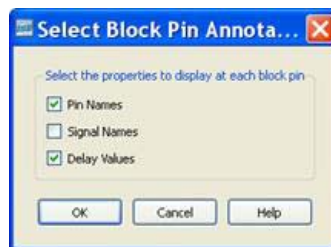

Figure 6-9: Select Block Pin Annotation
3. In the following dialog box, check the **Delay Values** option. Check the **Pin Names** option as shown in Figure 6-9.